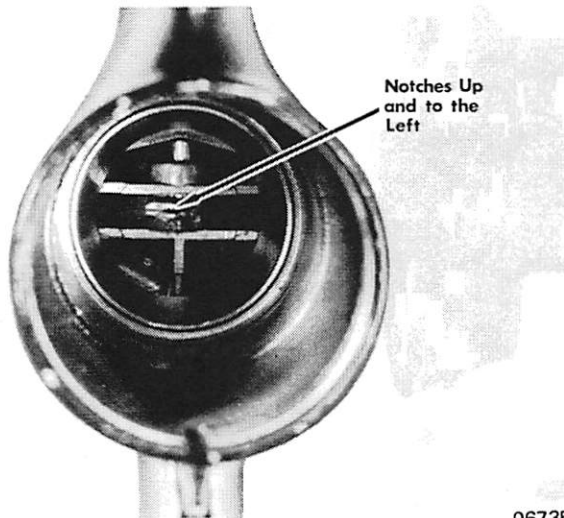

Figure 5. Shift Cam Location
10. Insert shifting cam into gear housing with notches up and to left when viewing in from skeg. Cam operates to right. (Figure 5)